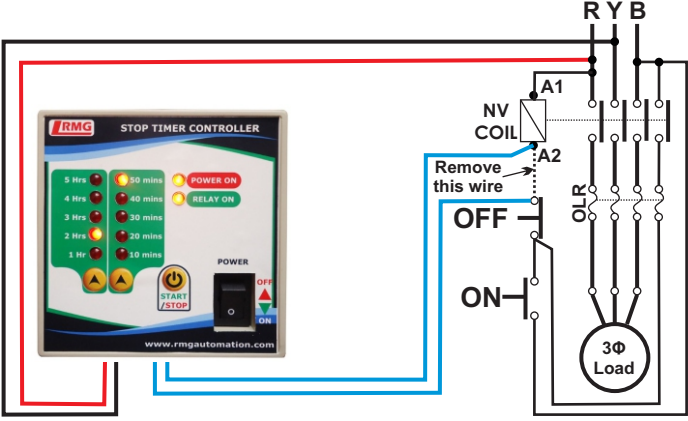

Figure2: 3Φ Starter
- Step 4:** If the timer has to be connected to motor starter, connect the blue pair to red button in series as shown in figure 2.